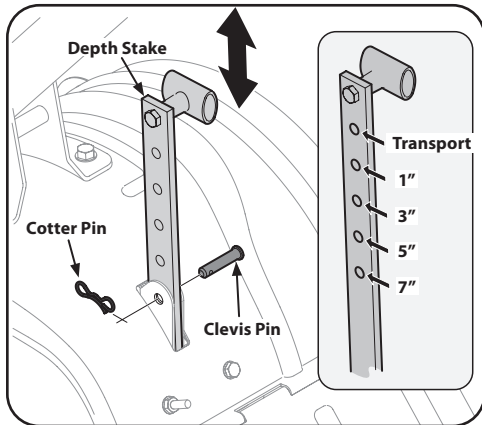

Figure 3-4
1. When using the tiller for the first time, use the second adjustment hole from the top (1" of tilling depth). See Figure 3-4.
6. To adjust the depth stake, remove the clevis pin and cotter pin. Move the depth stake to the desired setting and secure with the clevis pin and cotter pin. See Figure 3-4.